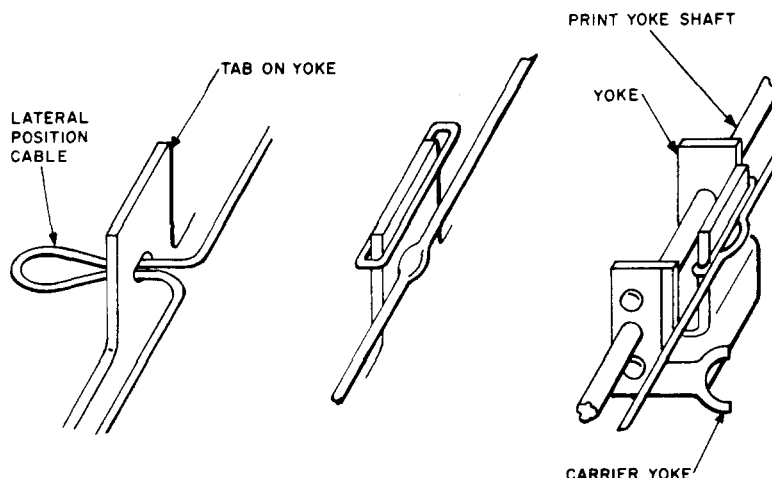

Fig. 8—Method of Attaching Lateral Position Cable to Carrier Yoke
- (1) Cut a piece of cable approximately 14 inches long, tie a knot in one end of the cable, singe the excess cable close to the knot to prevent unraveling, and thread the opposite end of the cable downward through the hole in the lateral cable adjustment post.
- (2) Make from 3/4 to a full turn ccw (viewed from top of unit) around the lateral cable adjustment post.
- (3) Thread the cable around the pulleys on solenoids 5, 3, and 4 successively. Continue to thread the cable around the left lateral pulley, through the cable clamp on the yoke, and around the right lateral pulley. Tie the lateral position cable to the lateral return spring so there is approximately one inch of cable between the lateral cable pulley and the end of the lateral return spring. Singe the end of the cable to prevent unraveling.
- (4) ♦On older units,♦ clamp the lateral position cable with the cable clamp on the carrier yoke by securely tightening the clamping screw. ♦On new units, attach as shown in Fig. 8.♦